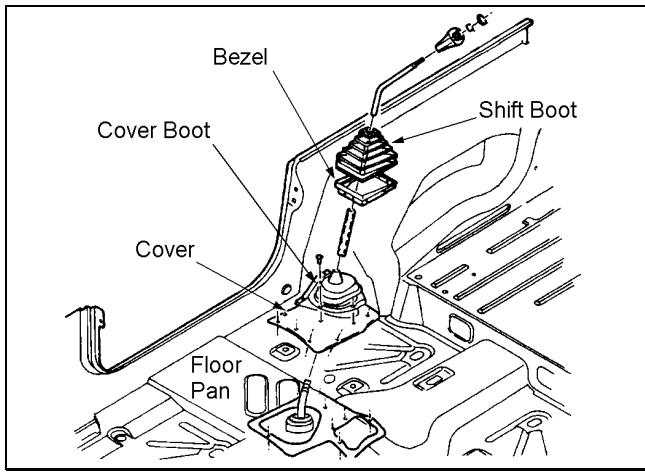

Figure 22
- 2) ☐ Pry up the shift boot and bezel from the floor console. See figure 22.